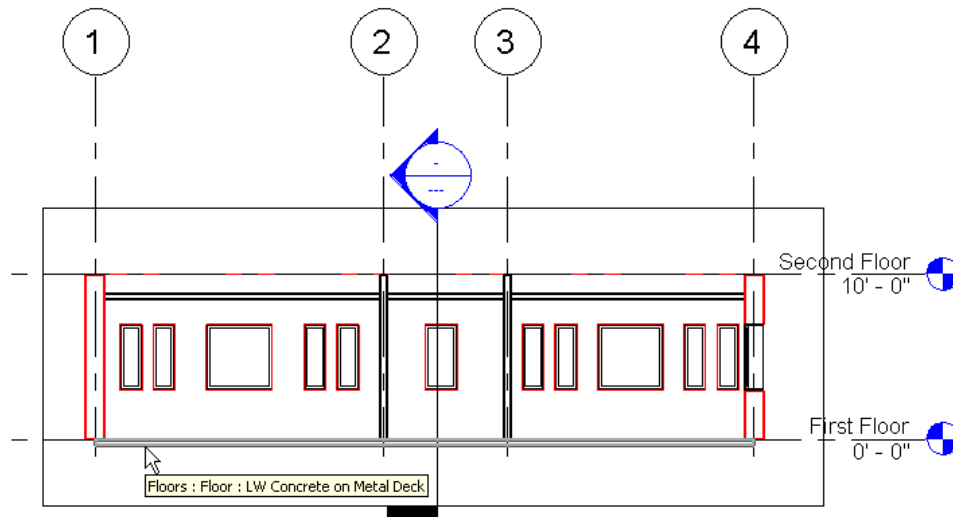

Figure 6-42 Selecting the floor to attach the exterior walls
6. Move the cursor near the floor and when it is highlighted, as shown in Figure 6-42, click to attach it to the walls. This attaches the walls to the floor.